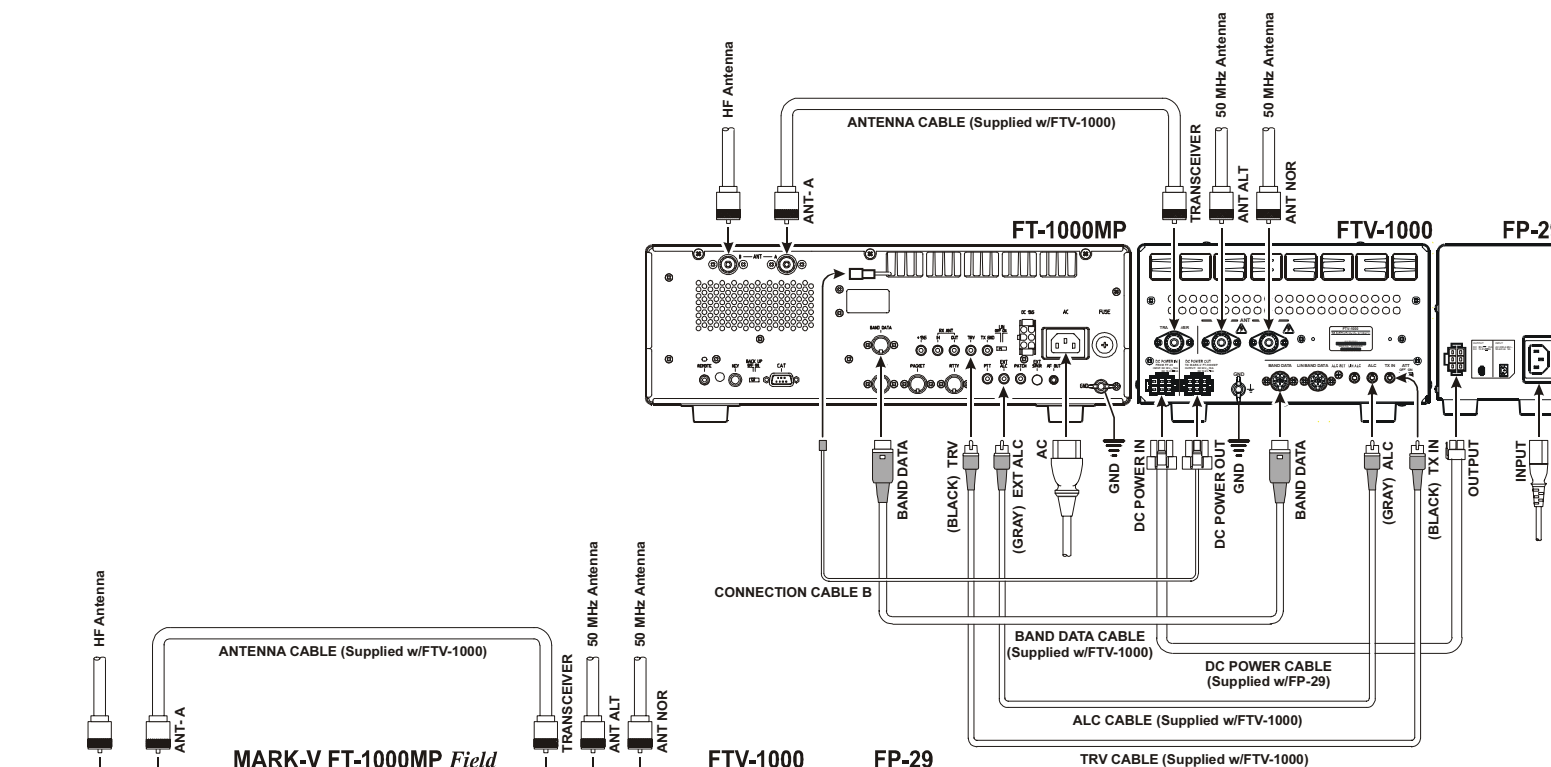
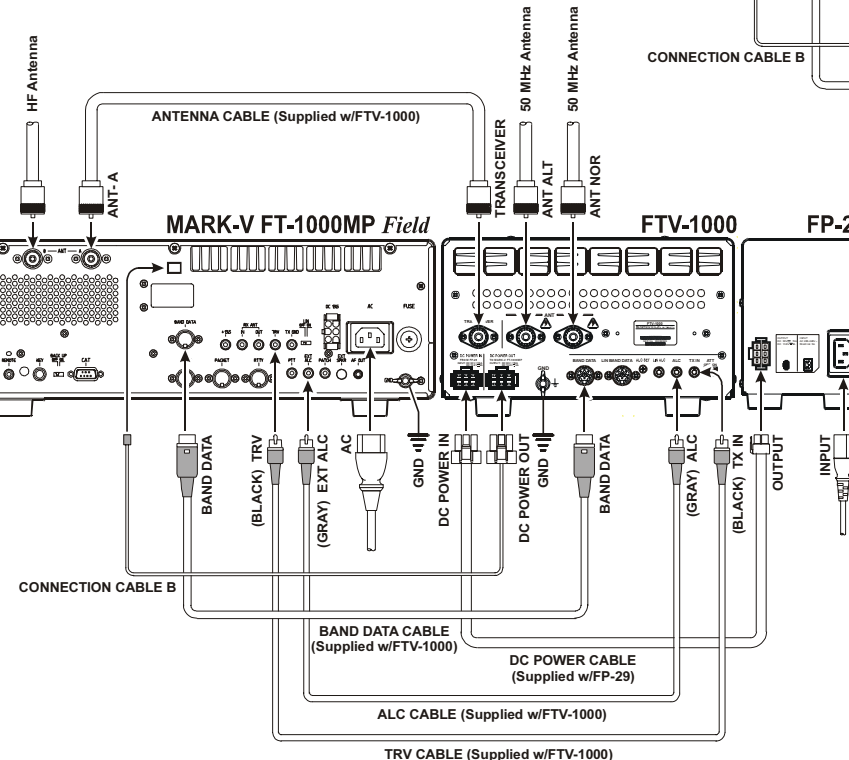

Figure 5 (FT-1000MP original version)
Figure 6 (MARK-V FT-1000MP Field)
- Referring to Figure 5 for the **FT-1000MP** (original version) or Figure 6 for the **MARK-V FT-1000MP Field**, Connect the supplied (long) Connection Cable B between the 2-pin connector of the (short) connection cable A and the **DC POWER OUTPUT** Jack on the **FTV-1000**. Connect other connection cables according to the illustration.